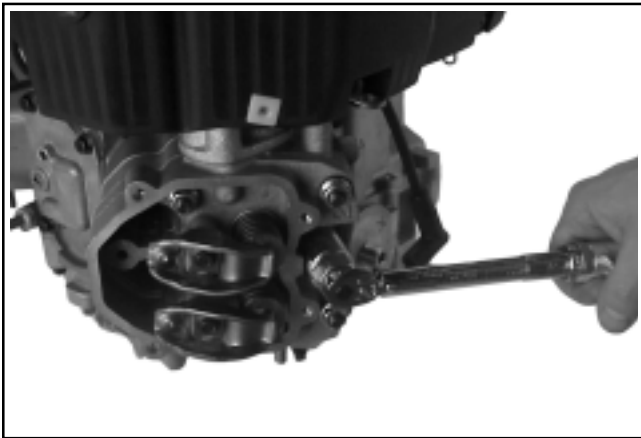

Figure 11-88. Torquing Spark Plugs.
1. Install the spark plugs into the cylinder heads and torque each to **24.4/29.8 N·m (18/22 ft. lb.)**. See Figure 11-88.